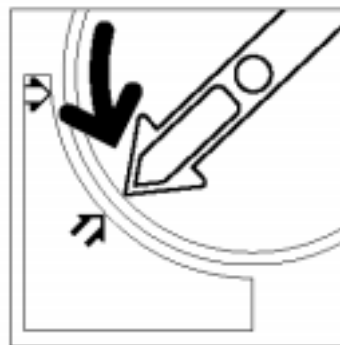

Figure 9: Rotating the Dry Ink Cartridge
- 3** Remove the empty cartridge by rotating it anti-clockwise until the large dot on the cartridge is aligned with the small dot on the copier/printer, as illustrated in Figure 9.